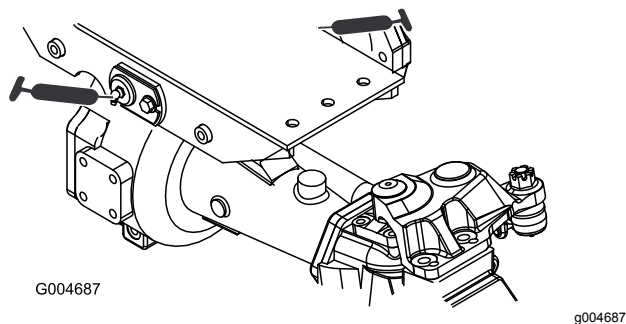

Figure 65
- 2 front and rear-axle-pivot bushings (Figure 65)